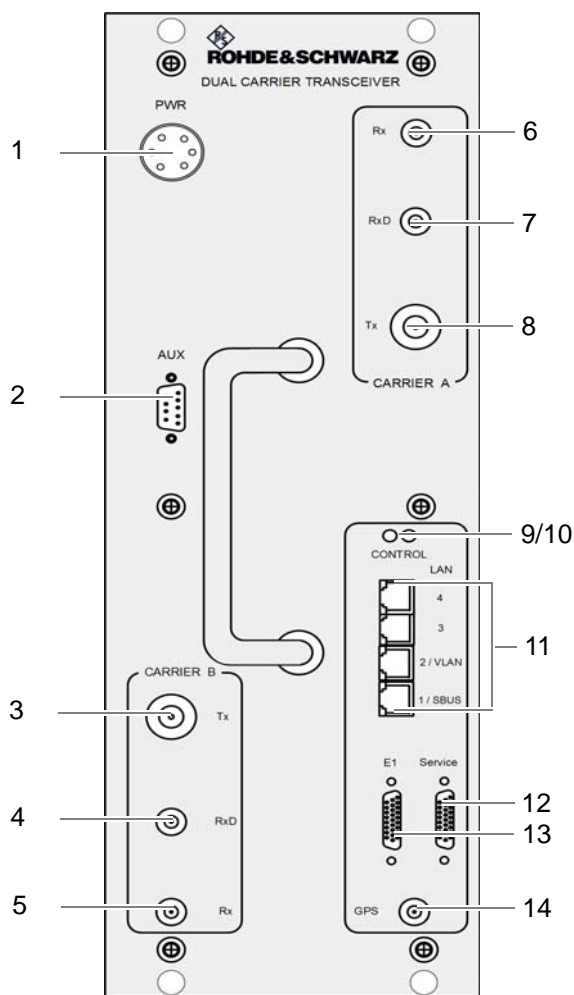

Figure 11.1 TIB (front view)
Figure 11.1 shows the front view of the TIB. The following table describes these indicators in detail.
- | Remove the power supply cable, see (1) in Figure 11.1 on page 176.
- | Remove all Ethernet cables, see (9) to (11) in Figure 11.1 on page 176.
- | Remove all cables at the Rx receiver inputs and at the GPS antenna connection using a wrench size 8, see (4) to (7) and (12) in Figure 11.1 on page 176.
- | Remove all cables at the Tx transmitter outputs using a wrench size 19, see (3) and (8) in Figure 11.1 on page 176.
- | Remove the cable at the port for the "AUX" antenna connection using a flathead screwdriver size 0.6 x 3.5, see (2) in Figure 11.1 on page 176.
- | Connect the corresponding cable at the port for the "AUX" antenna connection using a flathead screwdriver size 0.6 x 3.5, see (2) in Figure 11.1 on page 176.
- | Connect the corresponding cables at the Tx transmitter outputs with a dynamometric key size 19 using a torque of 1 Nm, see (3) and (8) in Figure 11.1 on page 176.
- | Connect the corresponding cables at the Rx receiver inputs and at the GPS antenna connection with a dynamometric key size 8 using a torque of 0.6 Nm, see (4) to (7) in Figure 11.1 on page 176.
- | Connect the Ethernet cables at each of the respective intended ports, see (9) to (11) in Figure 11.1 on page 176.
- | Connect the power supply cable, see (1) in Figure 11.1 on page 176.